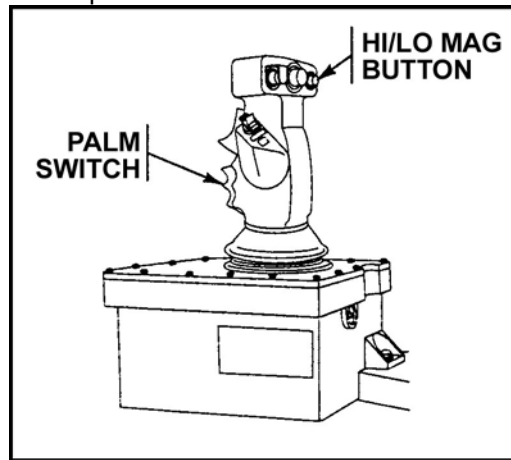

Figure 3. Commander's hand station.
- (1) Move the CIV UNSTOW/STOW switch to the UNSTOW position.
- (2) Squeeze and hold the palm switches on the commanders hand station (CHS)(Figure 3).